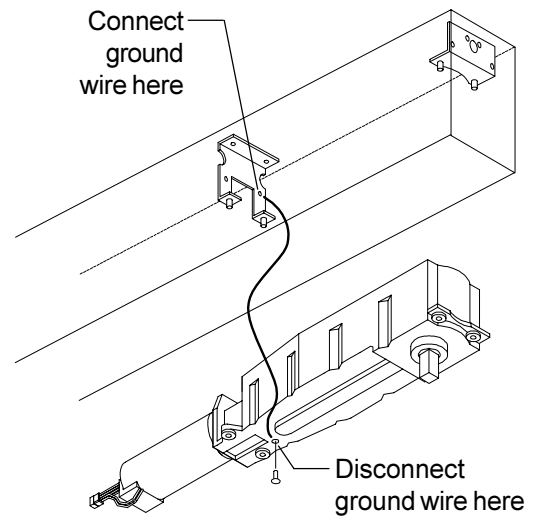

Figure 5-1
- 5.2. For ease of installation, disconnect the green operator ground wire 85010-600 from the operator and connect the other end of this wire to the rear operator mounting bracket in the header (Figure 5-1).